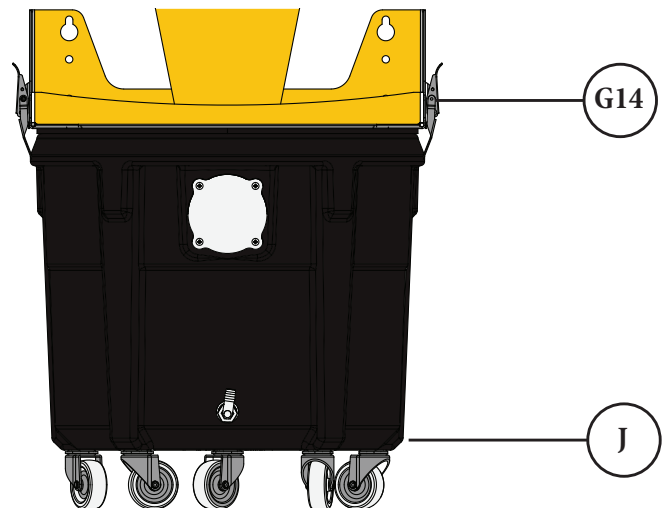

FIG. 29
Center the Drum Assembly (J) underneath the Mounting Bracket (F) and lower the Latches (G14) so that they hook underneath the rim of the Drum (J) [FIG. 29]. The Latches (G14) can then be closed to lift the drum up from the ground and seal the dust collector for operation.